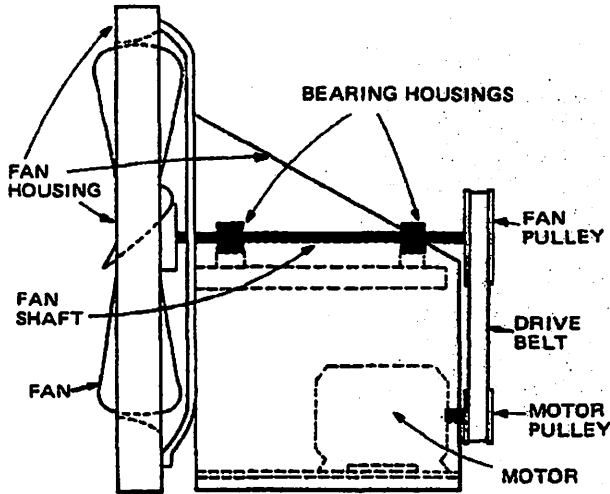
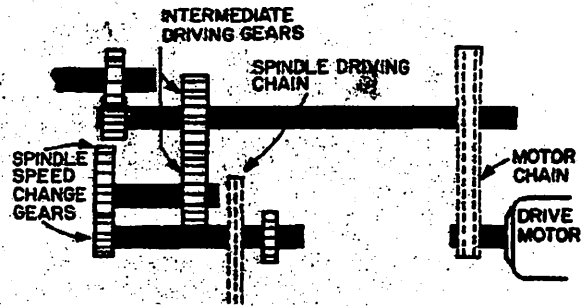

Fig. 1-1. View of ventilating fan, showing shaft and bearing mountings.
Fig. 1-2. Motor, shafts, and gears of a typical power transmission arrangement in a machine tool.
1.08 Shafts are used in equipment found in plant facilities of all types. In nearly every case, they are part of a mechanical power transmission system. (Except for electric motors, most electrical equipment doesn't use shafts.) Figure 1-1 shows a familiar example, a ventilating or exhaust fan, driven by an electric motor. The motor shaft turns the fan shaft by a belt and pulley arrangement. The pulleys help produce the speed required to run the fan most efficiently under its operating conditions. The fan has a given job to do. The motor and fan shafts are necessary parts of the arrangement to provide the fan with the needed power to do that job. Both shafts must run in bearings.
1.09 Figure 1-2 shows what seems to be a complicated arrangement of shafts and gears. It is different from that shown in Fig. 1-1, but is actually no more complicated, because the extra shafts and gears perform a similar function. They are the means used to get the needed horsepower to what we'll call the work-delivery point. If the arrangement shown in Fig. 1-2 is for a lathe, for example, more than one job may have to be done. One set of gears and shafts will transmit power to move the tool slide. The machine spindle itself is a shaft on which the work-holding chuck is mounted. It is driven by a chain and sprocket at the speed found to be the most efficient for making the cut which is being taken. The amount